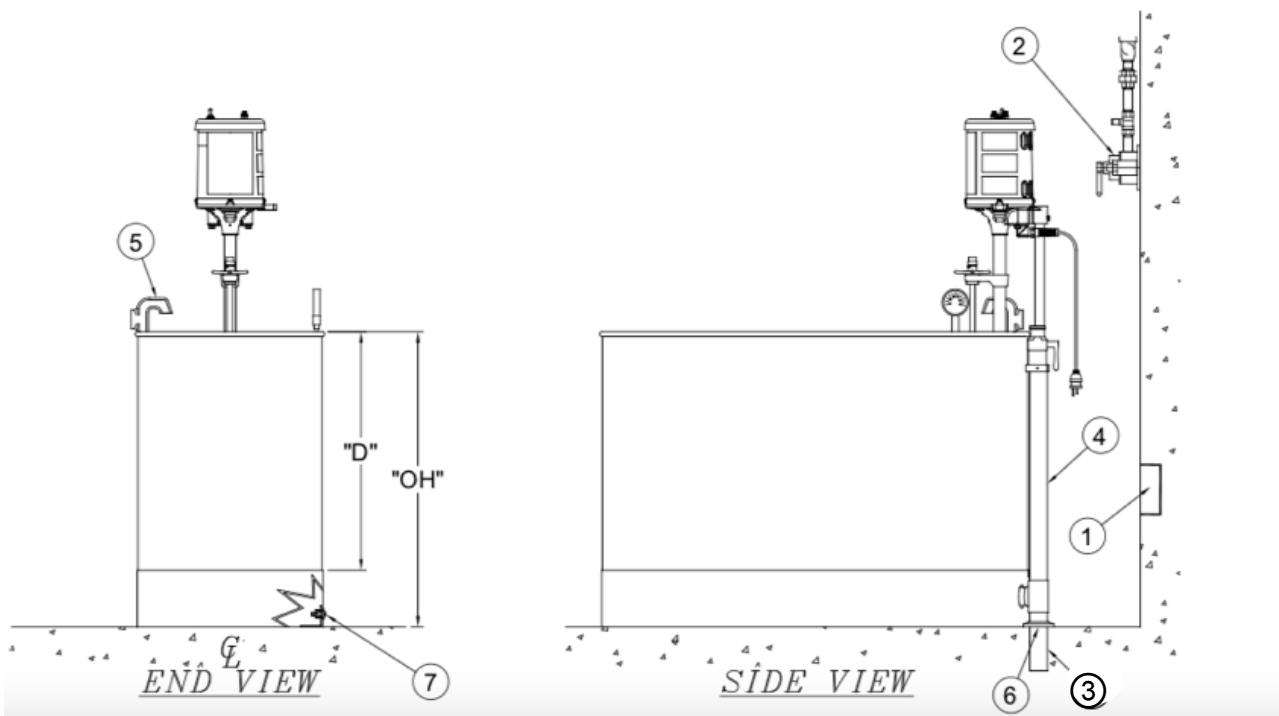

Figure 1:-S and -SP Whirlpool installation diagram - see table below for L, W, D, OH, CW, and CD values.
- Drain plumbed per Figure 1 (-S and –SP models only), installed by licensed plumber
- a. Connect tub drain to installed drain line using supplied 51 mm (2 inches) outer diameter drain tube coupling and escutcheon and position tub in desired location, keeping at least 30.5 cm (12 inches) clearance around outside of tub (see Figure 1).